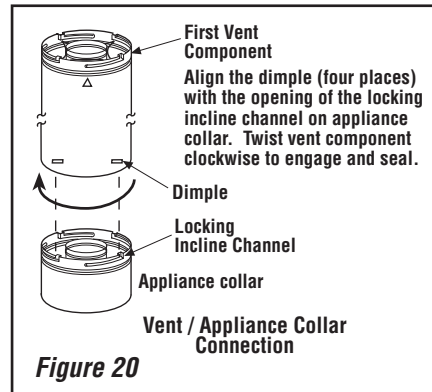

Figure 20
B. Attach vent components to appliance - Secure Vent® SV4.5 direct vent system components are unitized concentric pipe system components featuring positive twist lock connections (see **Figures 20 and 21**).
To attach a vent component to the appliance collar, align the dimpled end over the collar, adjusting the radial alignment until the four locking dimples are aligned with the inlet of the four inclined channels on the collar (refer to **Figure 20**). Push the vent component against the collar until it fully engages, then twist the component clockwise, running the dimples down and along the incline channels until they seat at the end of the channels. The unitized design of the **Secure Vent** components will engage and seal both the inner and outer pipe without the need for sealant or screws. If desired a #6 x 1/2" screw may be used at the joint, but it is not required as the pipe will securely lock when twisted.